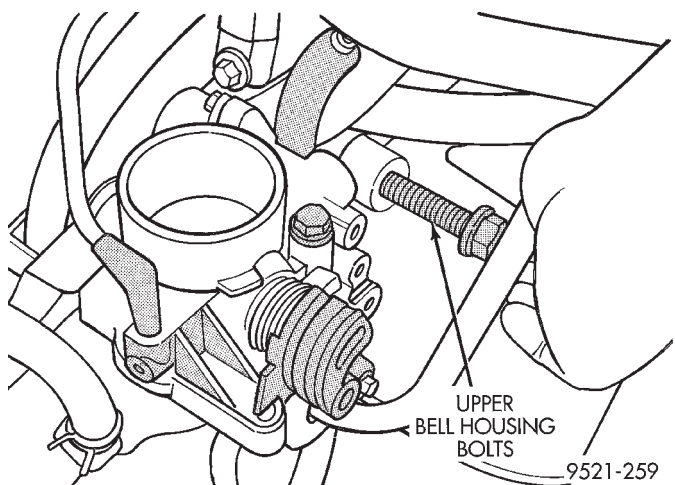

Fig. 27 Upper Bellhousing Bolts
- (11) Remove upper bellhousing bolts (Fig. 27).